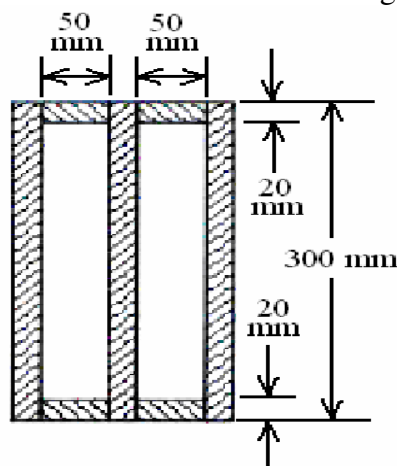

Figure 3
4. A plywood beam is built up of 6-mm strips separated by blocks as shown in Figure 3. What shearing force  $V$  will cause a maximum shearing stress of 1.4 MPa? [15]